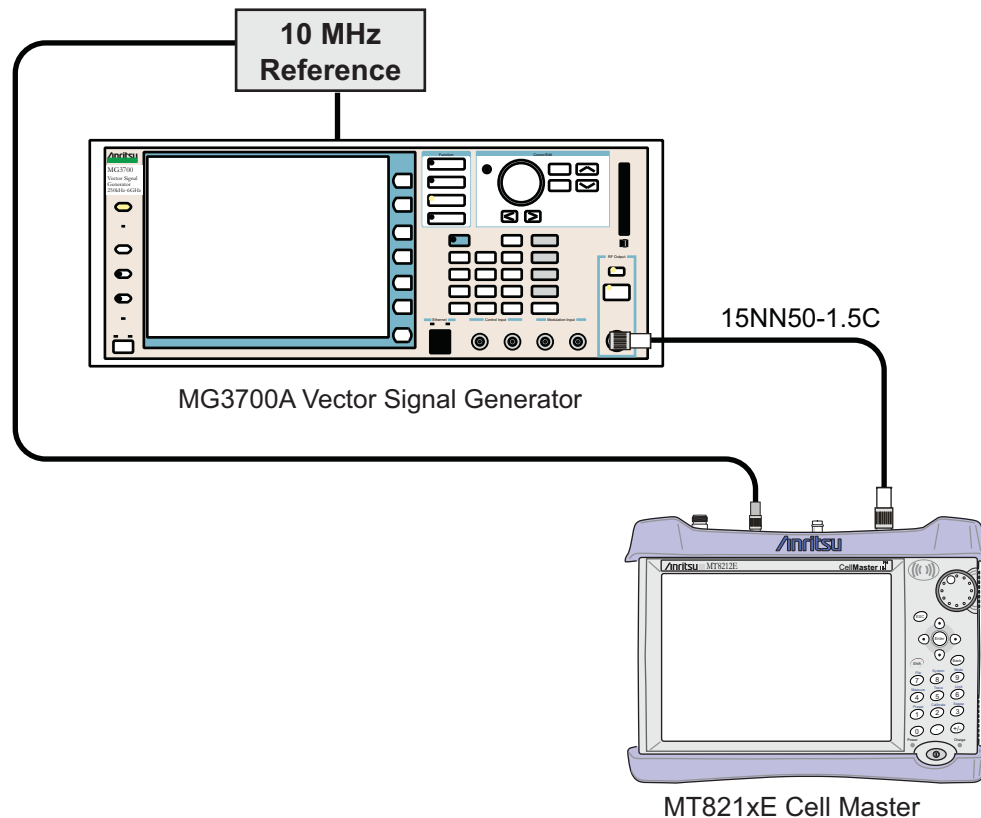

Figure 5-1. ISDB-T Signal Analyzer Test Setup
1. Connect the equipment as shown in Figure 5-1.
1. Connect the equipment as shown in Figure 5-1 on page 5-7.
7. Set the mode of the MT821xE to **ISDB-T Signal Analyzer**. Press the **Shift** key, the **Preset** (1) key, and then press the **Preset** submenu key to reset the instrument.